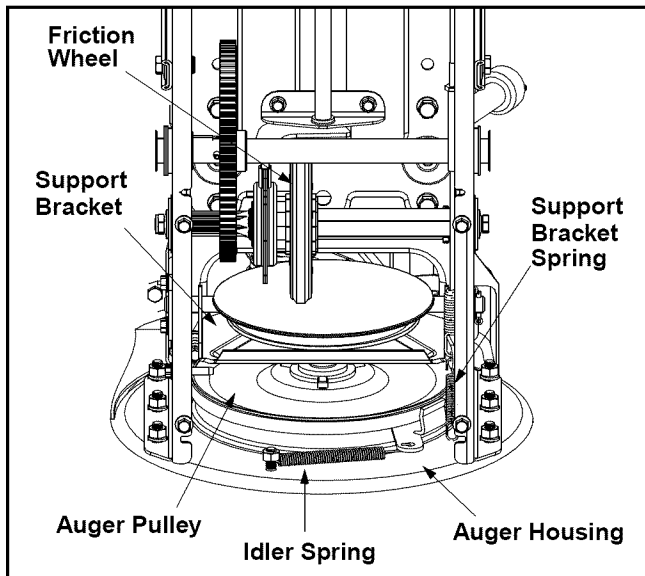

Figure 17
- Unhook the idler spring from the hex bolt on the auger housing. See Figure 17.